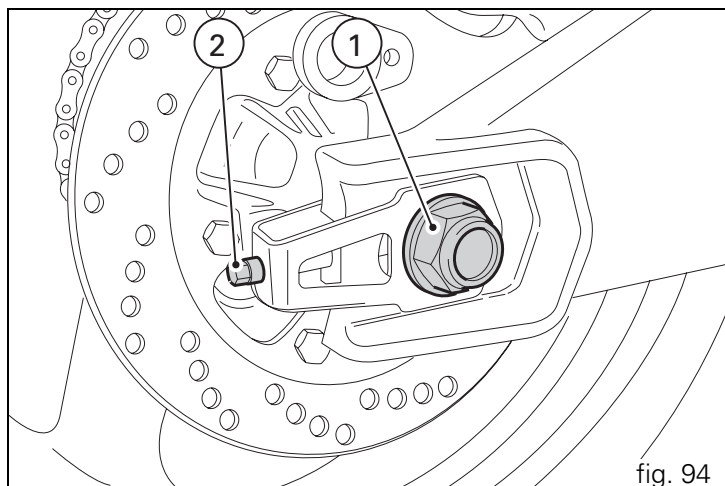

fig. 94
To adjust the tension. Loosen the axle nut (1, fig. 94) and screw in the adjuster screws (2) on both sides of the swingarm by the same amount to tighten the chain or unscrew them to slacken it. In the latter case, you will need to push the wheel forward.